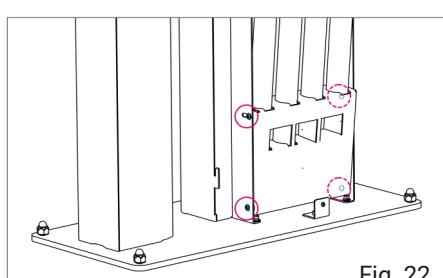

Fig. 22
- 6 Decide which tool (9) you wish to replace and pull the steel cable with the weight completely out of the guide tube. Use a 3 mm Allen key to loosen the headless screws from the weight thereby pulling the steel cable out of the weight (Fig. 22). Put the weight aside.